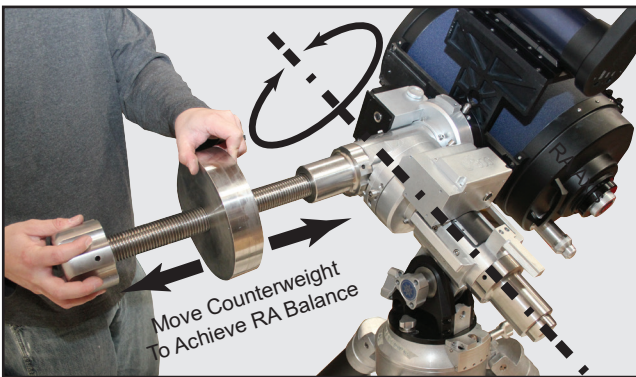

Fig 26: Balancing the RA axes
1. Firmly hold the optical tube secure so that it cannot accidentally swing freely. NOTE: An unbalanced OTA can swing quickly causing injury to the user. Loosen the RA Clutch. The optical tube now moves freely about the RA axis. Rotate the telescope so that the counterweight shaft (Page 20, Fig. 26) is parallel (horizontal) to the ground.